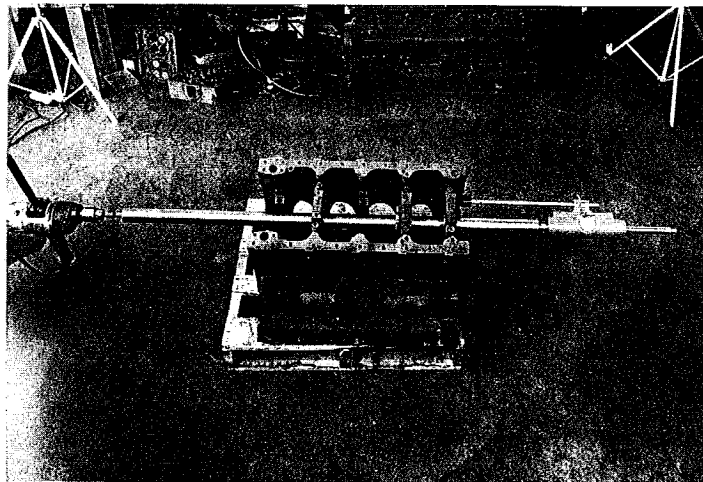

Fig 7 Torsion Bar/Bracket Mounted on Engine Block
2. Oil the centering ring bores and the entire length of the boring bar. While slowly rotating the boring bar, slide the bar through the centering ring bores and through the engine block. After the bar is slid through the bearing journals and centered in the engine block, bolt the torsion bar bracket (through the slotted hole) loosely onto the engine block opposite the end from which the boring bar will be driven with the hand drill. (See Fig 7)